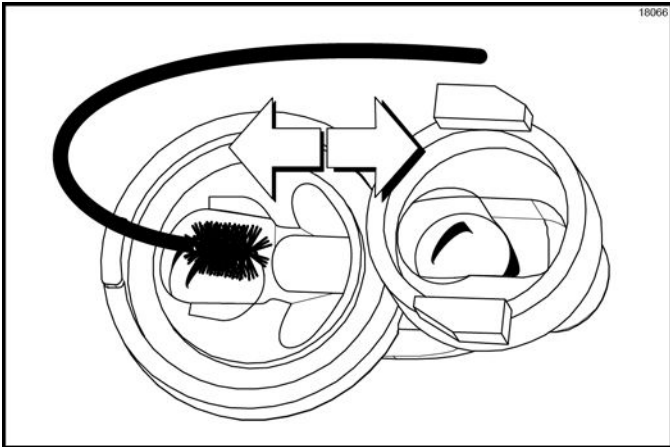

Figure 6-105
7. Move the brush back and forth to scrub this passageway. Advance the brush completely, and pull the brush out of the valve body. (See Figure 6-105.)